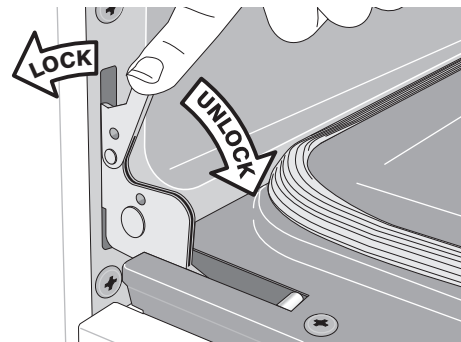

Figure 46: Door hinge locks
2. Pull the door hinge locks on both left and right door hinges down from the oven frame completely toward the oven door (See Figure 46). A tool such as a small flat-blade screwdriver may be required.
4. Push the door hinge locks up toward and into the oven frame on both left and right oven door hinges to the locked position (See Figure 46).